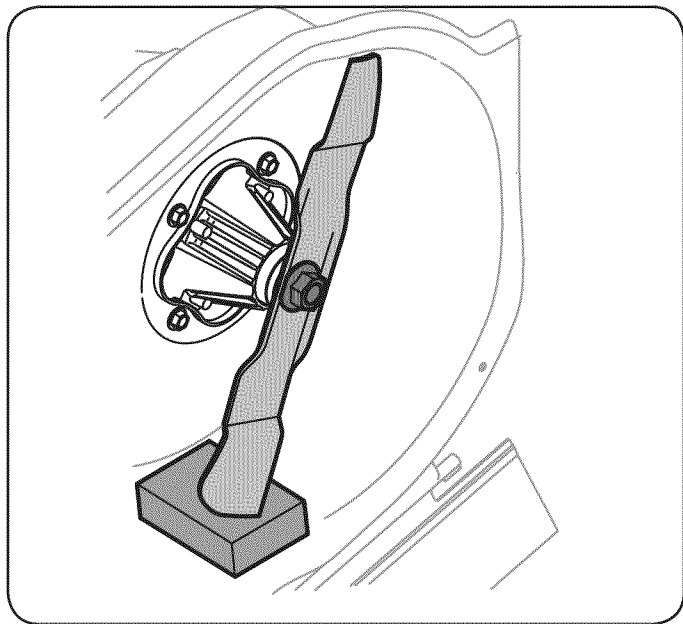

Figure 14
- Place a block of wood between the center deck housing baffle and each cutting blade to prevent the blades from turning when loosening the blade's hex flange nut. See Figure 14.